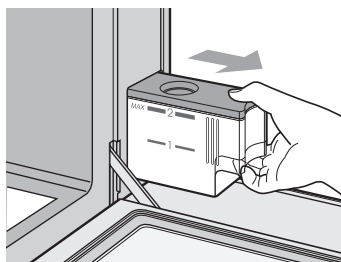

Figure 1
2. Wash the water tank and lid for the first time. (Figure 1)